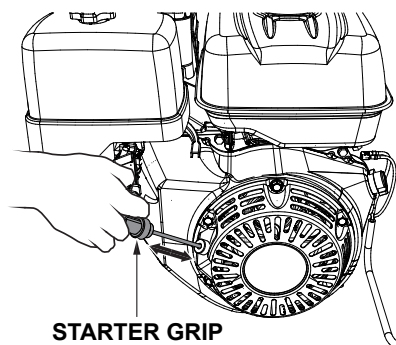

Figure 23. Starter Grip
7. Slowly pull the starter grip (Figure 23) until resistance is felt, then pull briskly and smoothly to start the engine. Gently return the starter grip to its original position.